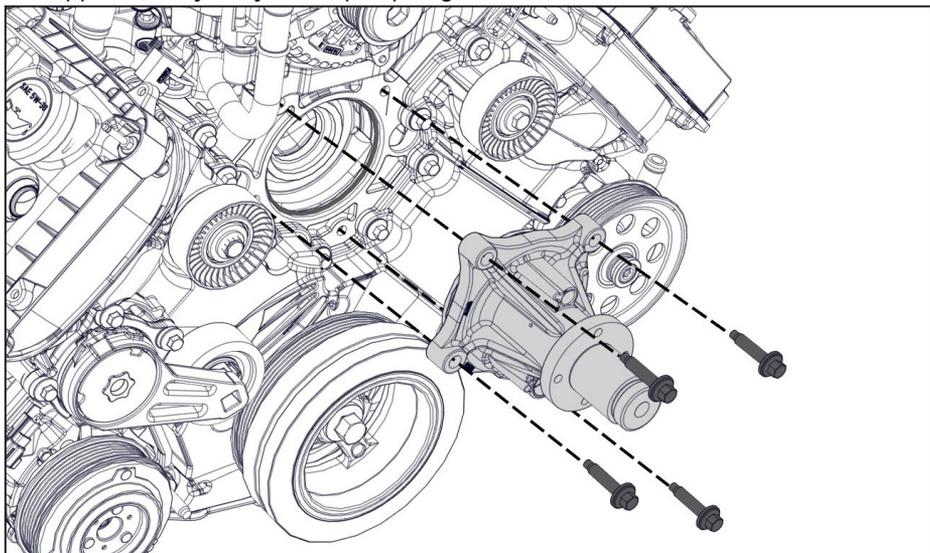

Figure 6 — Install water pump
- Lubricate the new water pump O-ring with clean engine coolant and install the supplied heavy-duty water pump (Figure 6).